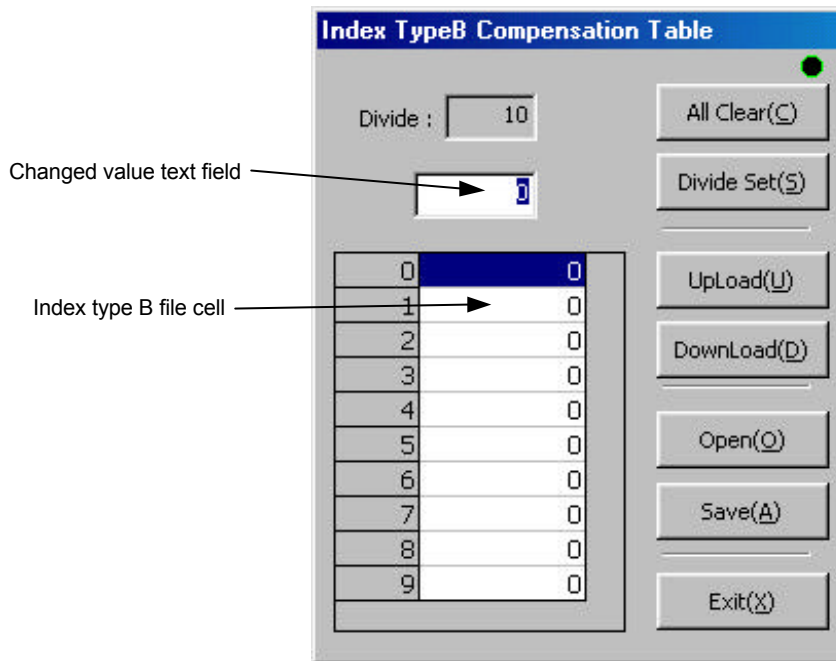

Figure 7.46 “Index TypeB Compensation Table” dialog box
Click *Table Edit (E)* in the “Index Type B” dialog box to display the “Index TypeB Compensation Table” dialog box (see Figure 7.46).